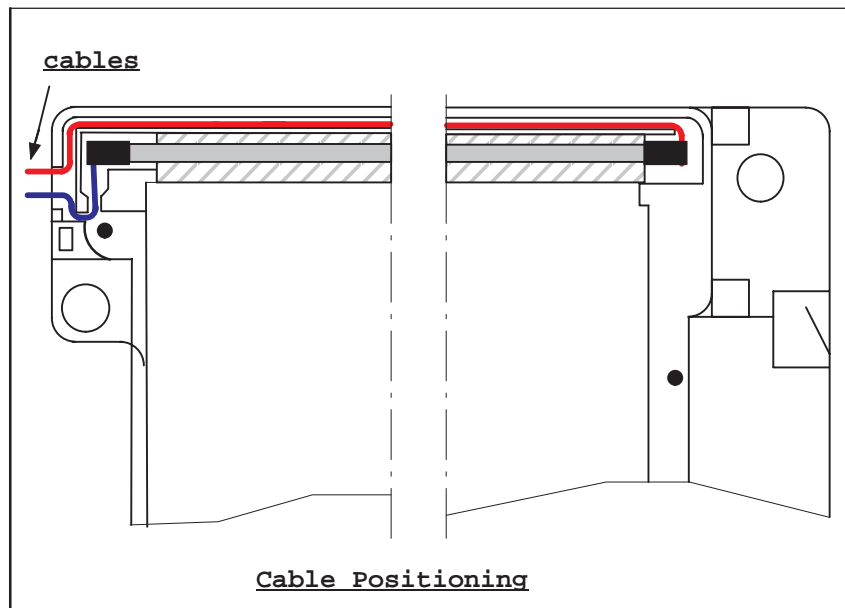

Figure 1-9 Position of the tube cables
- The cables connected to the tube must be laid in the appropriate channels (see Figure 1-9).